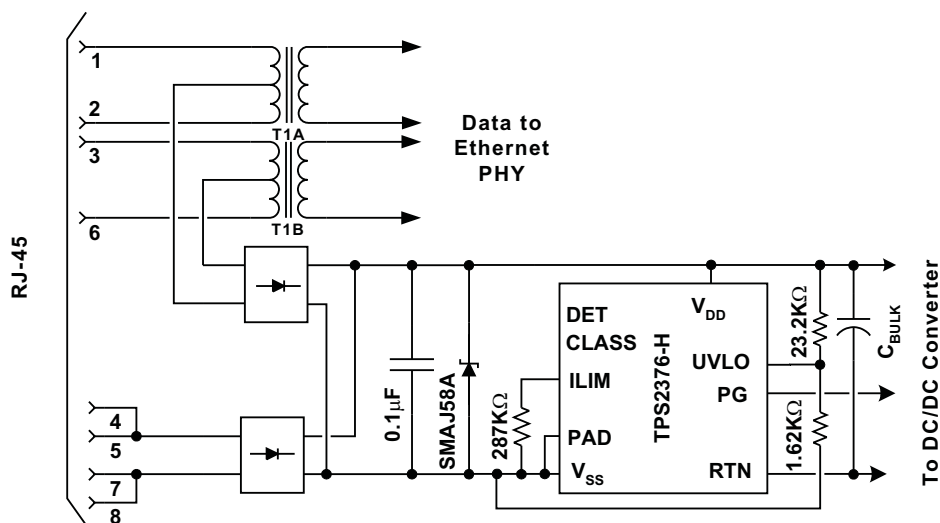

Figure 1. Typical Application Circuit
(1) Stresses beyond those listed under “absolute maximum ratings” may cause permanent damage to the device. These are stress ratings only, and functional operation of the device at these or any other conditions beyond those indicated under “recommended operating conditions” is not implied. Exposure to absolute–maximum–rated conditions for extended periods may affect device reliability.
(3) SOA limited to $V_{(RTN)} = 80$ V and $I_{(RTN)} = 900$ mA.
(4) Surges applied to RJ-45 of Figure 1 between pins of RJ-45, and between pins and output voltage rails per EN61000-4-2, 1999.